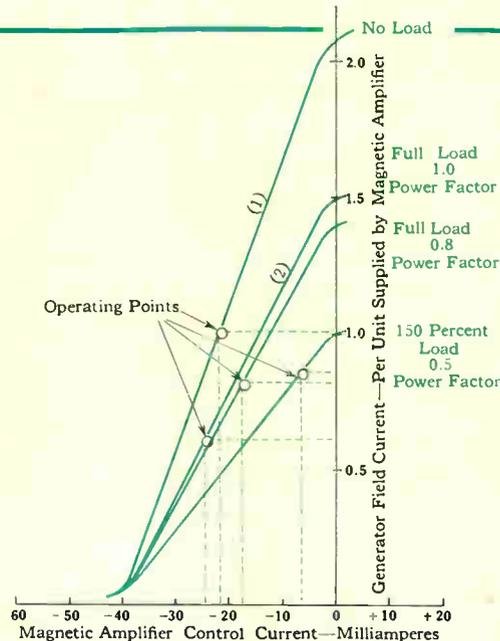

Fig. 3—Operating curves showing Magamp output as a function of Magamp control current at various generator loads.
Fig. 3—Even a good insulator, such as dry crystalline salt, has crystal imperfections, i.e., vacant lattice points. This allows a movement of sodium ions through the crystal by jumping from one vacant point to another. This ion movement results in a small amount of conduction in the crystal.
Insulating materials differ widely in their ionic conductivity, which depends on the number of ions per cubic centimeter of the material and the mobility of the ions. Common salt, sodium chloride, represents one extreme where all atoms are ionized. Positive sodium ions and negative chlorine ions result from the very large electron affinity of the chlorine atom, which extracts the valence electron from the sodium atom. But dry crystalline salt at low temperatures is an excellent insulator with very low electric conductivity, since the ions are not able to move in the tight regular crystal structure. It has a slight conductivity as a result of imperfections in the crystal—vacant lattice points, where ions are missing (see Fig. 3). The smaller sodium ions can diffuse slowly through the crystal by jumping into these vacant spots.
The operation of the magnetic amplifier as the generator load changes is shown graphically in Fig. 3. When the generator is operating at no load, the Magamp operates on the voltage transfer characteristic (1). When load is applied, the additional field current supplied by the current transformer